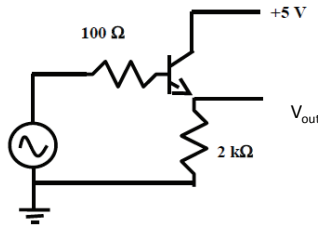

Figure 4: Circuit to amplify current with a transistor
- c. Suppose the amplitude of the oscillating input voltage from the function generator in Fig. 4 is 100 mV . Estimate the offset voltage you need on the function generator to keep the base emitter junction forward biased through the whole cycle.(1 mark)
The transistor circuit shown in Fig. 4 functions as a current amplifier.
- Setup the circuit in Fig. 4 on your protoboard. Measure the resistance of each resistor with a DMM and record them in your labbook. Do not power up the board until you have carefully checked the circuit and you have completed the next step. A picture of the 2N3904 transistor can be found near the front of the green binder along with descriptions of several other devices. The first page of that section describes the LM741 operational amplifier. The transistor is on the last page of the section. Note there are 3 pins on the transistor and you have to get the orientation